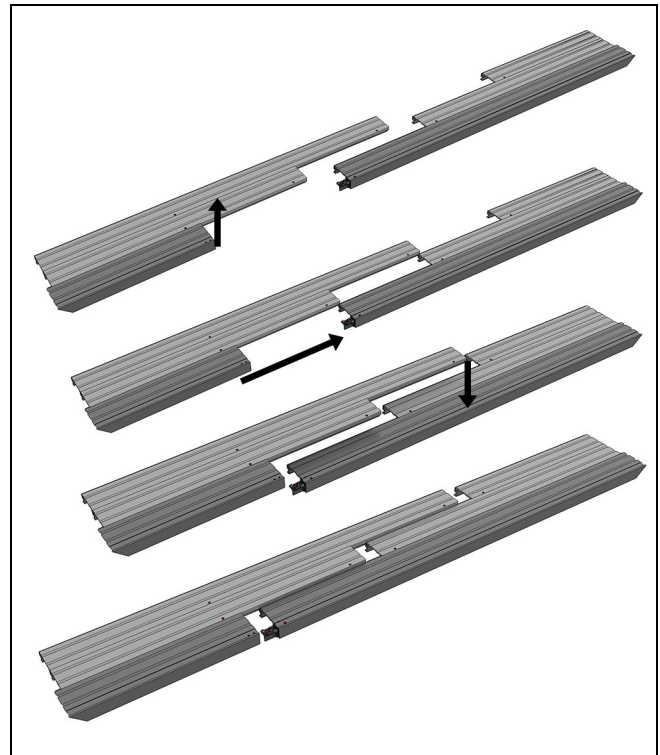

Figure 31
2. Lay the head jamb parts out on a flat clean and protected surface. See Figure 31.